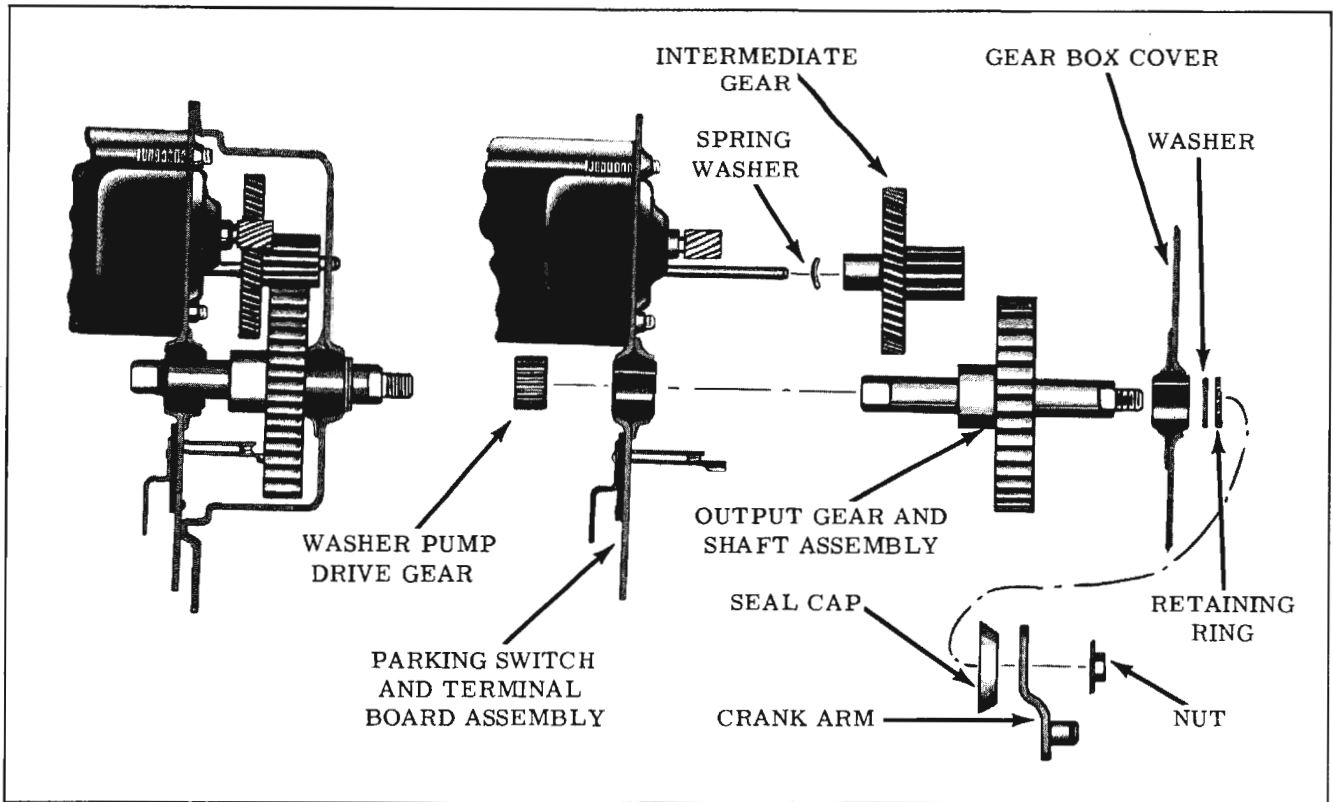

Fig. 14-167 Single Speed Gear Box
6. Remove output gear and shaft assembly, then slide intermediate gear and pinion assembly off shaft. (Fig. 14-167)